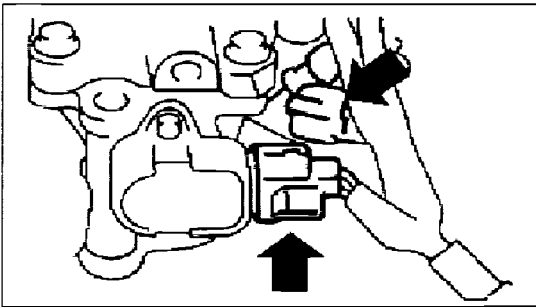

Fig.4: LH Side Injector Surrounding Area
a) Disconnect #2 Injector Connector on all models. (see Fig. 4)
b) Disconnect TGV Position Sensor Connector on all models. (see Fig. 4)